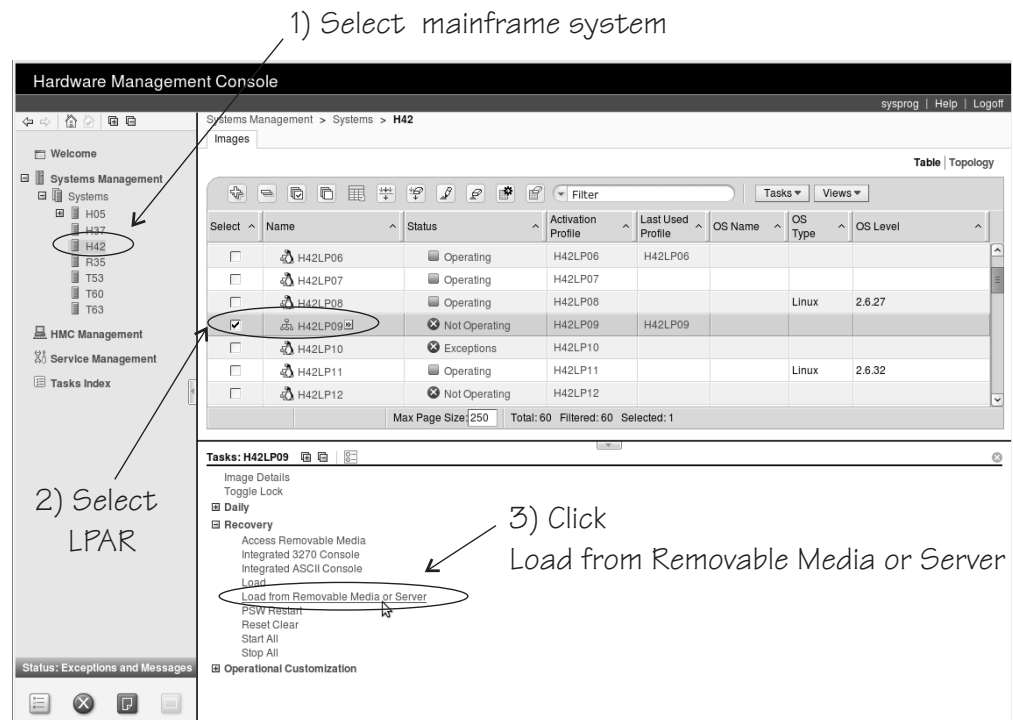

Figure 29. Load from Removable Media or Server task on the HMC
3. In the **Tasks** area, expand **Recovery** and click **Load from Removable Media or Server** (see Figure 29).